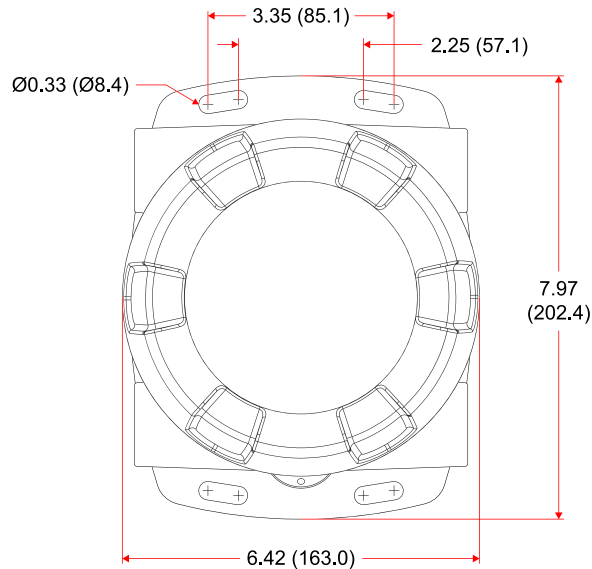
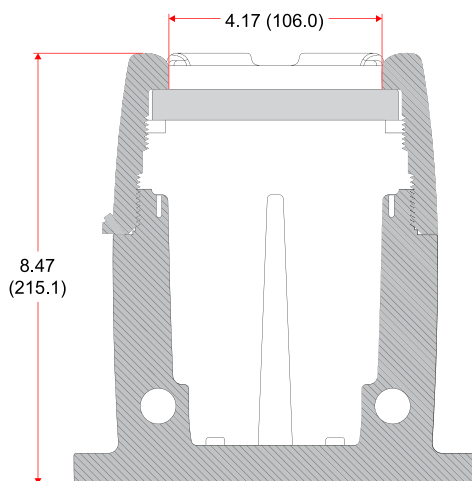

Figure 1. Enclosure Dimensions – Front View
Figure 2. Enclosure Dimensions – Side Cross Section View
The ProtEX-MAX has two slotted mounting flanges that may be used for pipe mounting or wall mounting. Refer to *Figure 1* and *Figure 2* below.
- Prepare a section of wall approximately 7.0" x 8.5" (178 mm x 216 mm) for controller mounting by marking with a pencil the mounting holes (shown in *Figure 1*) on the wall.
- Select the appropriate mounting screws for the mounting surface to be used. The mounting holes diameter is shown on *Figure 1*.